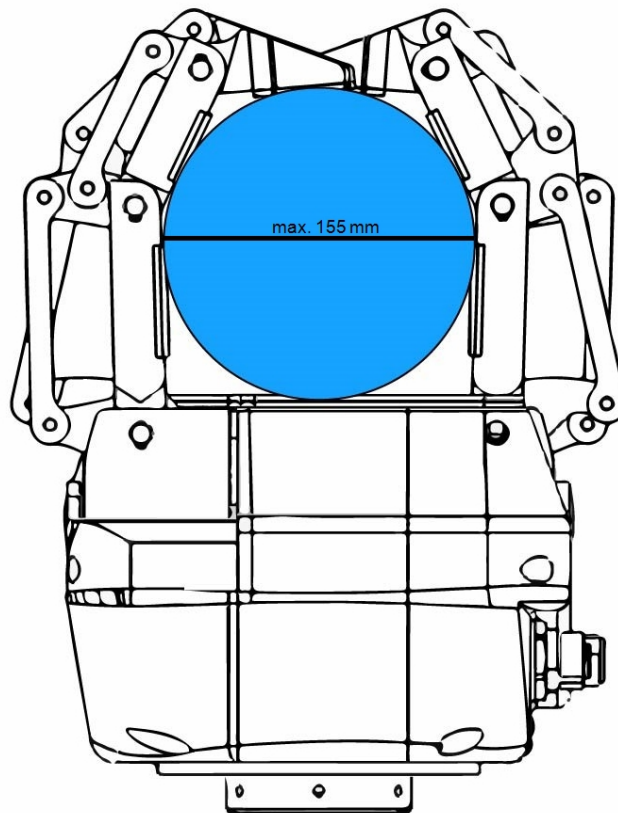

Figure 6.2.1 : Maximum encompassing diameter
- Because the Gripper is self-locking, the Break Away Force is higher than the Actuation Force (see Figure 6.2.1).